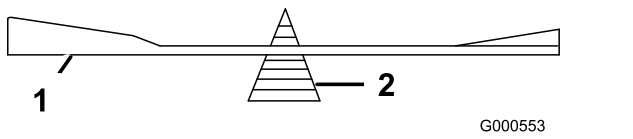

**Figure 59**
1. Use a file to sharpen the cutting edge at both ends of the blade (Figure 59).
**Note:** If the blade is not balanced, file some metal off the end of the sail area only (Figure 59).